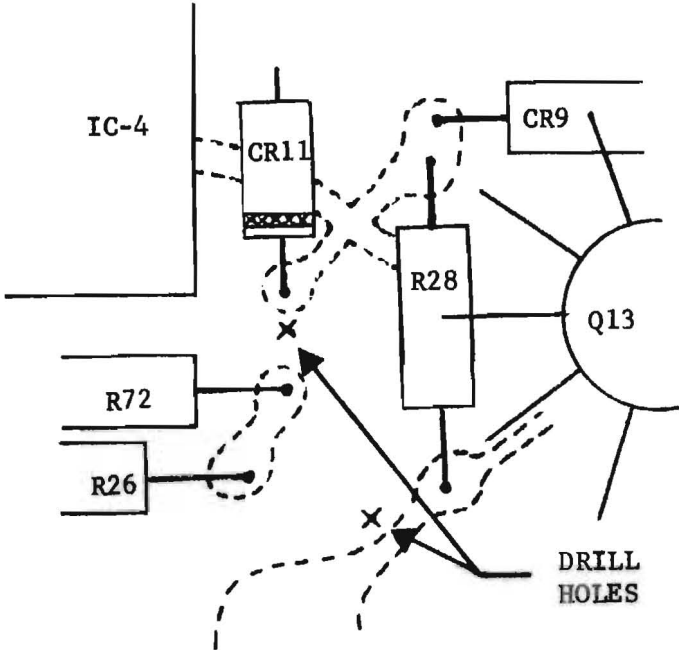

FIGURE 1
1. Drill two holes .030/.035 inches in diameter at points in figure 1.